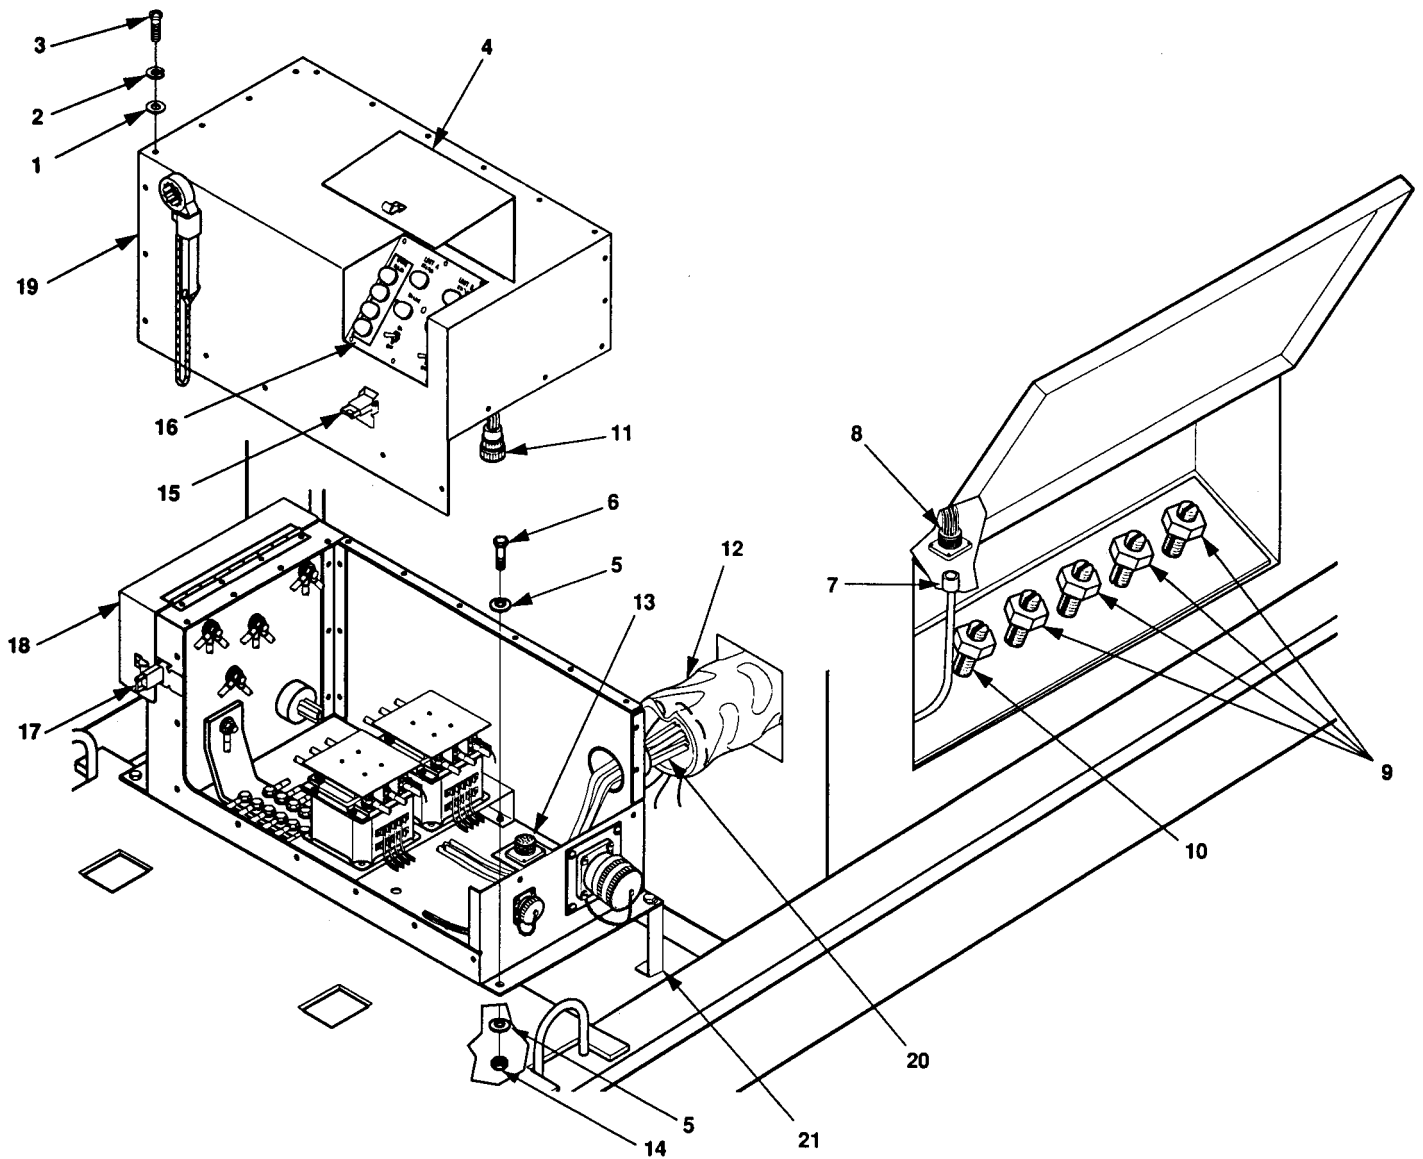

Figure 4-10. Switch Box Assembly Maintenance.
1. Remove four nuts (14, figure 4-10), flat washers (5), and screws (6) that secure switch box assembly.
2. Disconnect W1, W2, W3, and W4 from the generator set load terminals (9).
3. Disconnect W5 from the generator set ground terminal (10).
4. Disconnect P1 (7) from J16 (8) of the generator set.